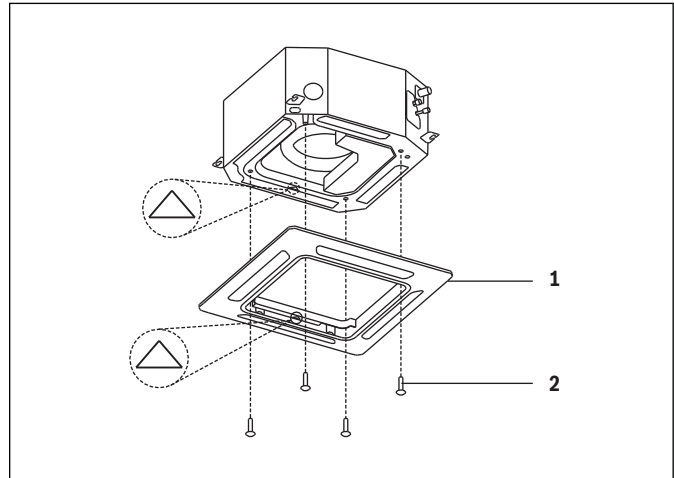

Figure 47
- ▶ Attach the decorative panel to the unit with the supplied screws as shown in Figure 47.